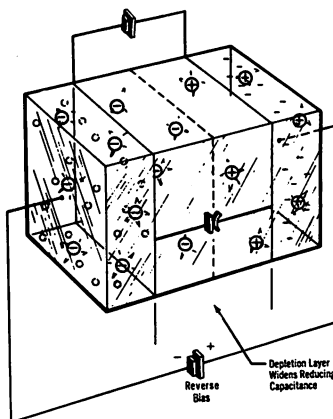

Figure 2 — (B) Reverse voltage forces carriers away from junction. This widens the depletion layer and reduces capacitance.
Figure 2 — (A) A representative p-n junction. The battery represents the contact potential which must be overcome before current can flow. Current carriers act as capacitor plates and the depletion layer is the dielectric.